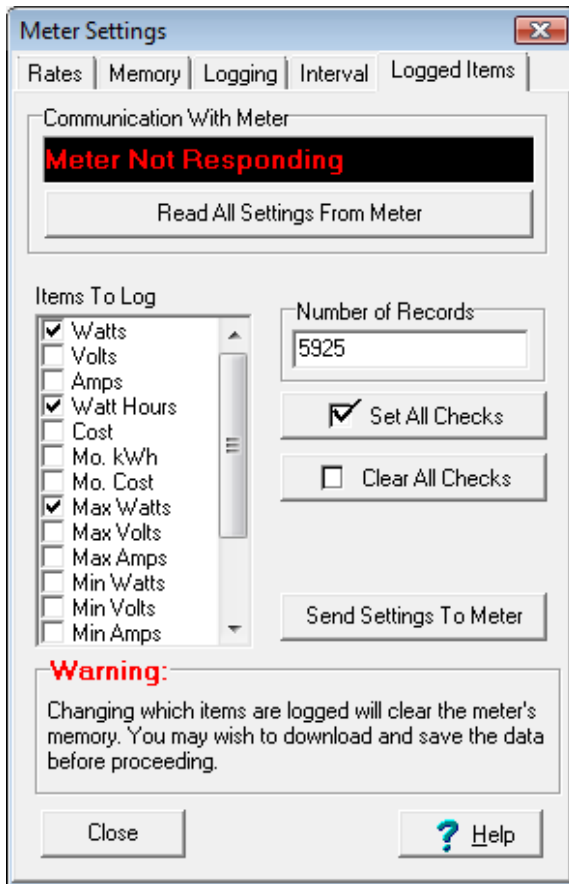

Figure 1: Logged Items
4. Check the following *Items to Log* (Figure 1)